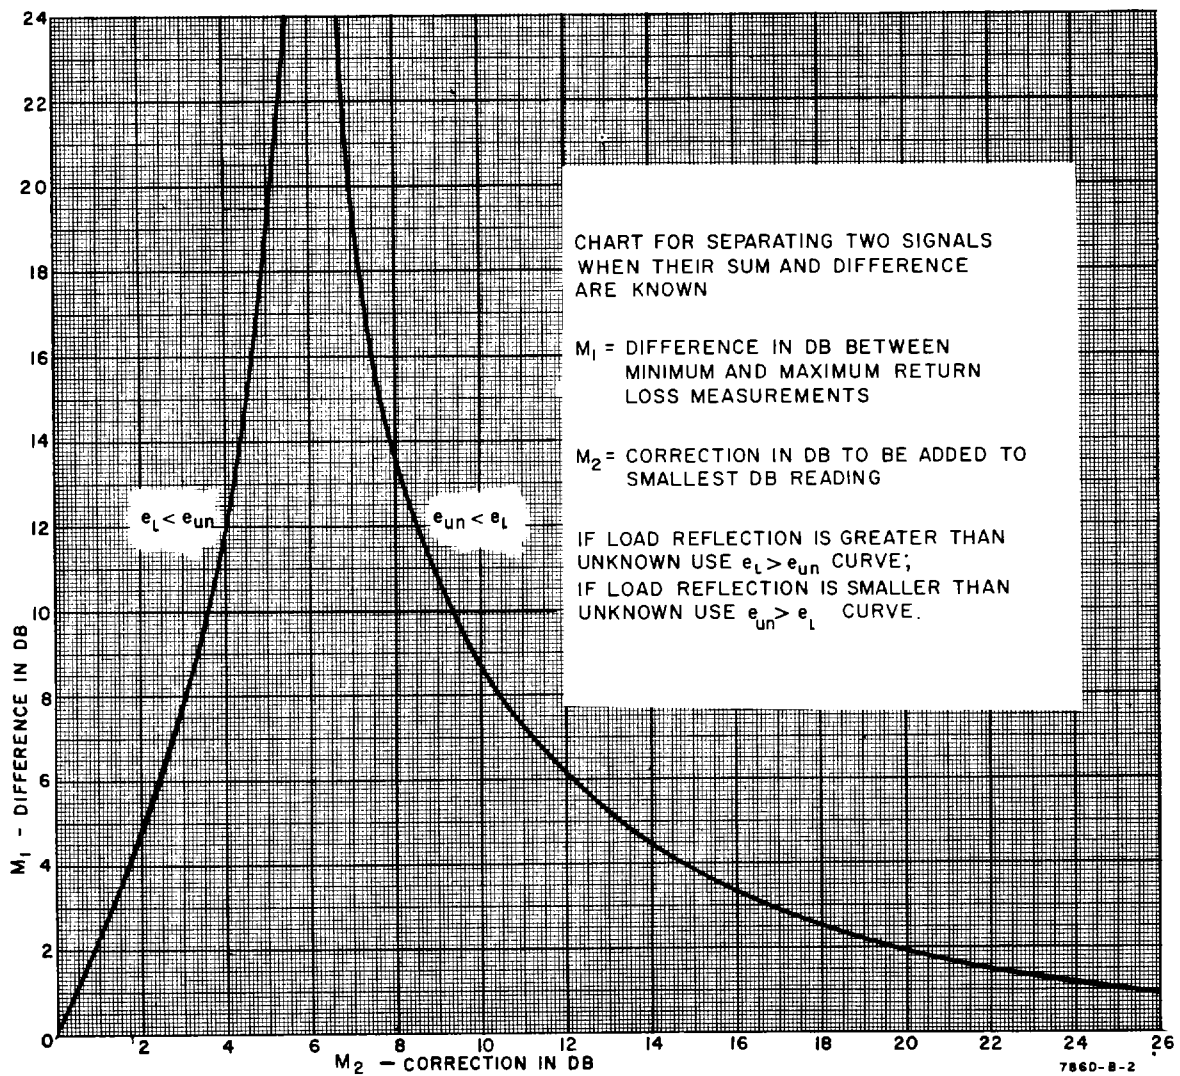

Figure 11. Signal Separation Chart
i. Refer to Figure 11. Determine values for M_2 which are the two correction factors to be used. Add the minimum reading of step g to each correction (M_2). For example, if the difference in db (M_1) is 4.9 db, then from the graph (Figure 11) the two corrections are 2.1 and 13.3 db. One corrected value is Sliding Load return loss and the other is 786D directivity.
- (1) SWR Meter readings were 0.5 and 5.4 db.
- (2) The attenuators used were 20 db and 10 db; hence, the readings indicate 30.5 and 35.4 db.
- (3) The difference between the minimum and maximum readings is then 4.9 db.
- (4) Referring to Figure 11, the two correction factors are 2.1 and 13.3 db.
- (5) The minimum reading (30.5 db) added to each results in two corrected readings: 32.6 and 43.8 db.
- (6) To determine which reading represents the Sliding Load, the center conductor is partially unplugged from the 786D.
- (7) The above steps were repeated which resulted in SWR Meter indications of 25.5 and 28.0 db. The difference between the two readings is 2.5 db which from Figure 11 determined the two correction factors to be 1.2 and 18.0 db.
- (8) The two correction factors added to the 25.5 db minimum gave corrected readings of 26.7 and 43.5 db.
- (9) The Sliding Load return loss was 43.5 to 43.8 db, because making a bad connection between the Sliding Load and the 786D did not affect this reading much.
- (10) The 786D directivity was 32.6 db, because making a bad connection between the Sliding Load and the 786D did affect this reading causing an erroneous reading which did not agree with either of the previous corrected readings.